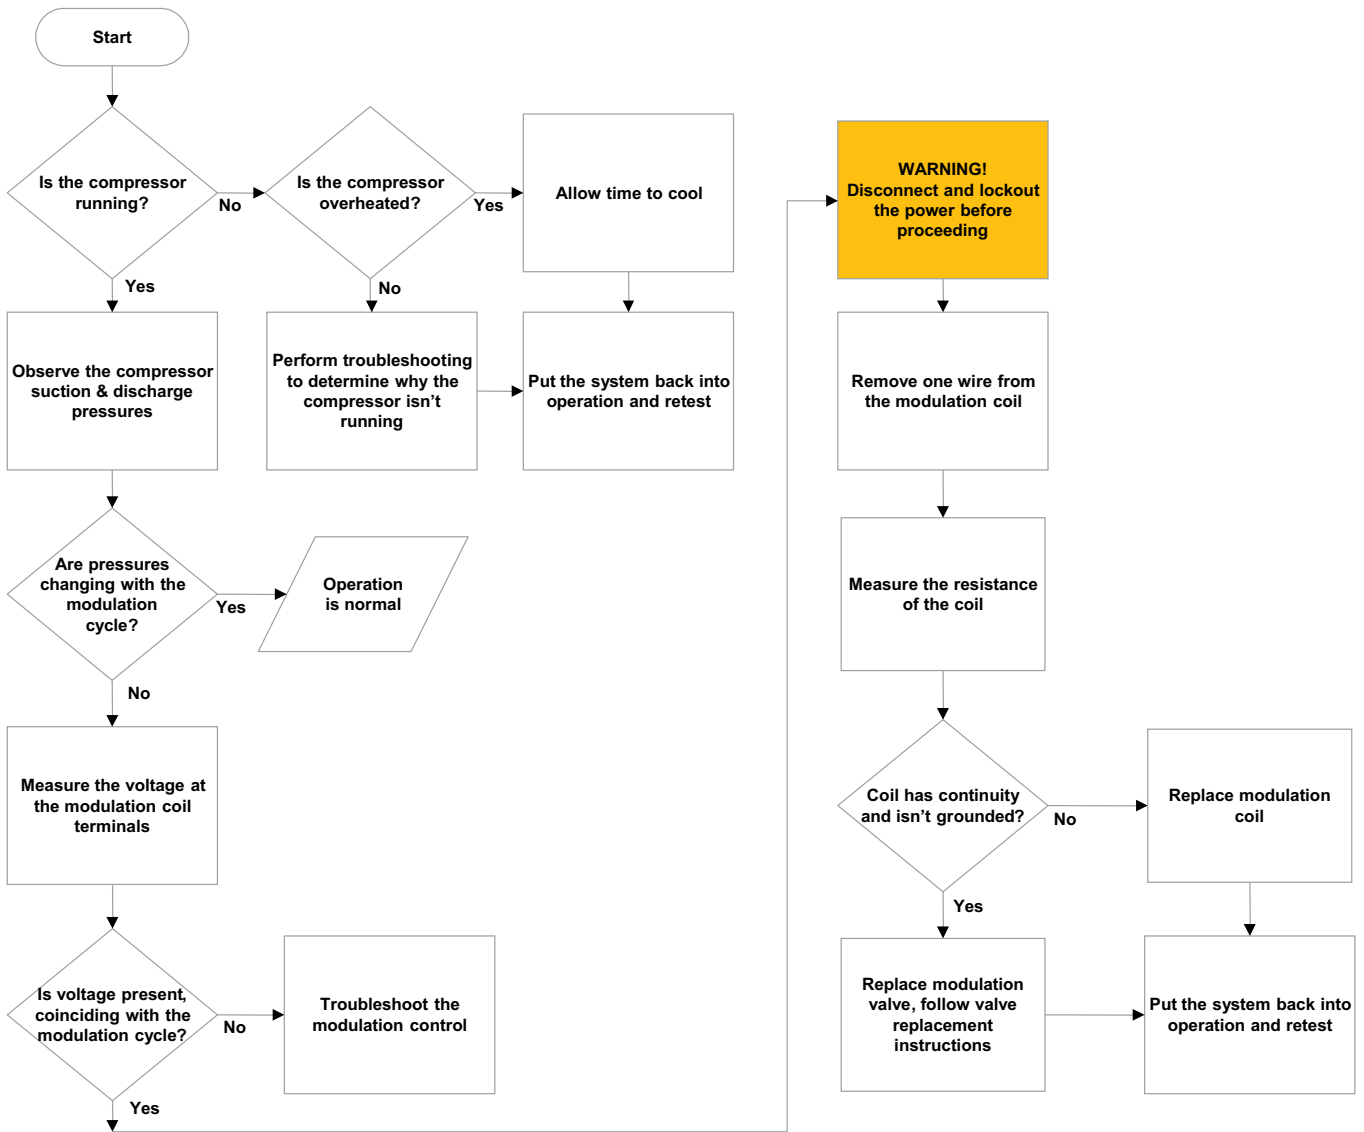

**Figure 6**
4. If the compressor has an external modulation valve and tubing (ZPD34-ZPD54K5, ZPD61-ZPD83KC, ZPD91KC, ZPD104KCE, ZPD122KCE, and ZRD36-81KC only) refer to **Figure 6** for the correct valve orientation and position. Wrap a wet rag around the valve and complete the assembly by brazing the valve and tubing into place.
The external modulation valve is purchased and shipped separately from the ZPD34-ZPD54K5, ZPD61-ZPD83KC, ZPD91KC, ZPD104KCE, ZPD122KCE, and ZRD36-81KC digital scroll. Therefore, assembly is required in the OEM manufacturing plant. **Figure 6** illustrates the correct position and orientation of the modulation valve. Please note the direction of the arrow on the valve, it must point to suction.
The modulation valve and solenoid coil are engineered for specific use with the digital scroll. Don't attempt to substitute replacement solenoid coils that are not of the correct part number. The ZPD34-ZPD54K5, ZPD61-ZPD83KC, ZPD91KC, ZPD104KCE, ZPD122KCE, and ZRD36-81KC modulation valves must be installed in the correct orientation and with the arrow on the valve pointing to suction. Installing a modulation valve in a horizontal position, or with the suction and discharge connections reversed, can result in sporadic operation of the modulation valve. See **Figure 6** for an illustration of the correct valve location and orientation.
Refer to Figure 6 for the correct modulation tubing configuration.**